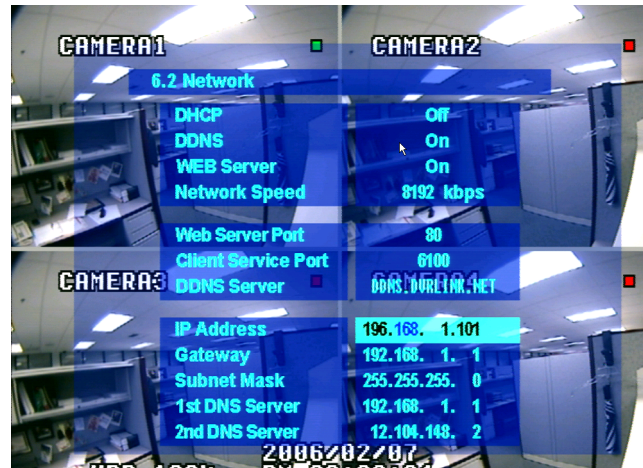

Figure 13. Additional Network Settings
- Configure any additional settings that are required for your network. Whether the following settings will be available depends on which network options you selected (refer to Figure 13):